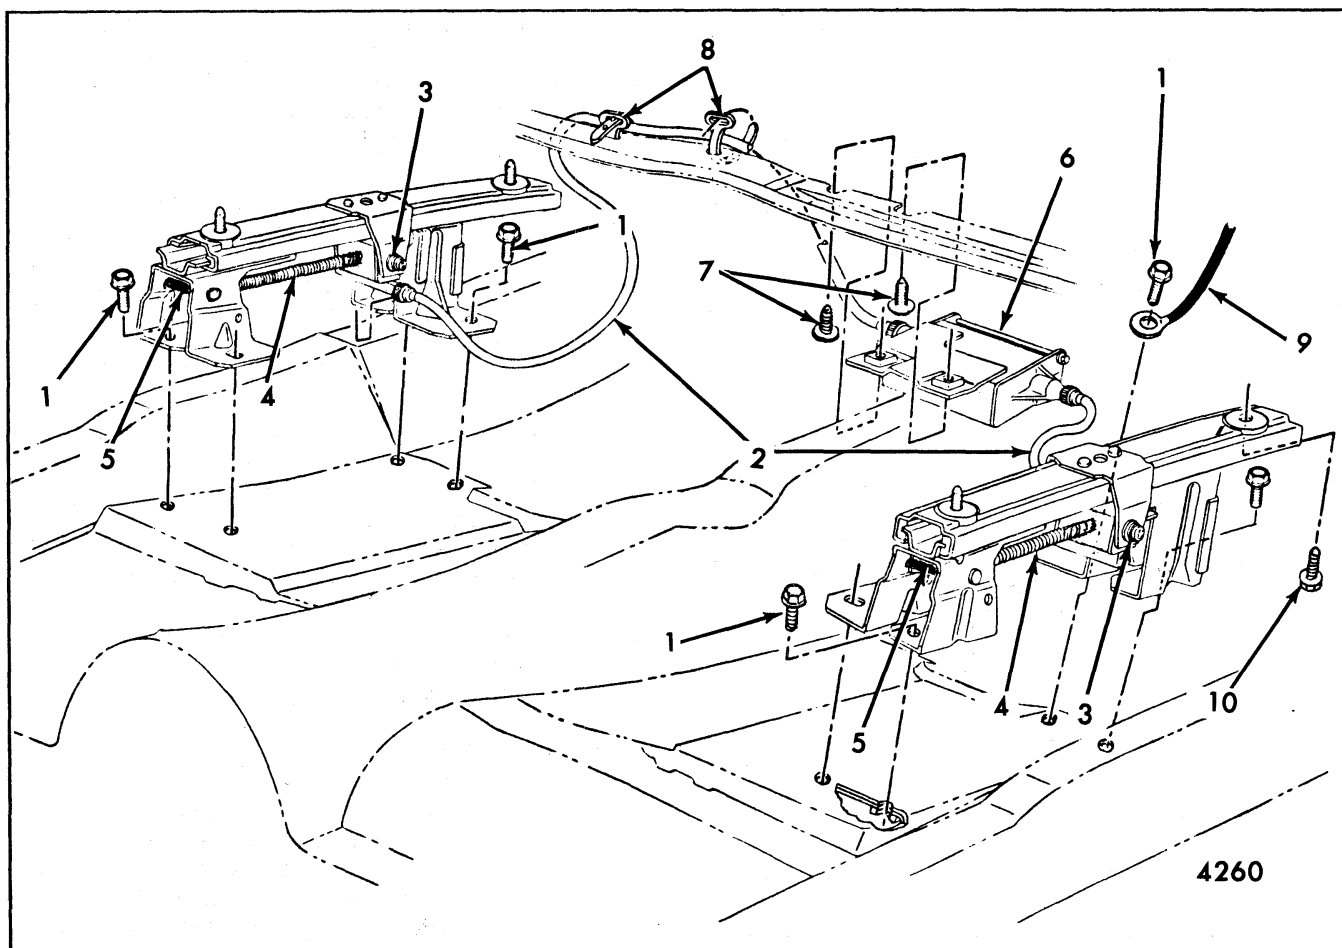

Fig. 9-11-Front Seat Adjusters - Power Operated Horizontal Seat and Adjusters
4. Fig. 9-11-Power Horizontal (Two-Way) Full Width Seat
| 4. Fig. 9-11-Power Operated Horizontal (Two-Way) Full Width Seat Adjusters | 8. Fig. 9-22-"A" Body Manually Operated Bucket Seat Adjusters (Except Swivel Bucket) |
5. Remove screws that secure motor support to seat bottom frame and remove motor with attached support from seat frame (Figs. 9-11 and 9-12).
6. Remove screws securing motor to motor support bracket and remove motor assembly (Figs. 9-11 and 9-12).